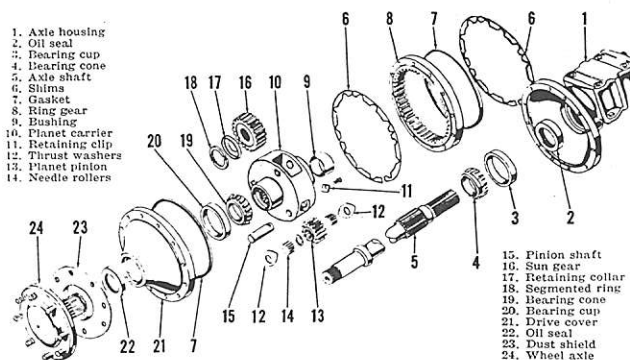

Fig. 247—Exploded view of late three-pinon (hybrid) planetary final drive unit. Refer to Fig. 242 for cross sectional view.
218. LATE THREE-PINON (HYBRID) PLANETARY UNIT. Refer to paragraph 221 for removal procedure of the complete final drive unit, and to paragraph 222 for removal of wheel axle and planet carrier assembly. Refer to Fig. 247 for an exploded view of planetary unit and associated parts.
219. ADJUSTMENT. Planet carrier bearing preload of 0.001-0.005 is adjusted by means of shims (6—Fig. 247) interposed between planetary ring gear (8) and axle housing (1) or cover (21). Shims are available in thicknesses of 0.002, 0.005 and 0.010.
220. OVERHAUL. To overhaul the planetary final drive unit, first remove the complete final drive as outlined in paragraph 221, remove the retaining bolts and lift off the wheel axle, drive cover and planet carrier as an assembly. Refer to Fig. 247.
Place the removed unit, axle flange down, on a bench. Find the largest planet pinion opening in carrier (10) and remove the cap screw, lock plate (11), shaft (15), pinion (13) and bearings; then withdraw sun gear (16) through the opening. Use a small, sharp chisel and cut the retainer (17) as shown in Fig. 249, then remove the retainer and segmented retaining ring (18—Fig. 247). Using a press or suitable puller, remove wheel axle (24) from carrier (10). The procedure for further disassembly is obvious.